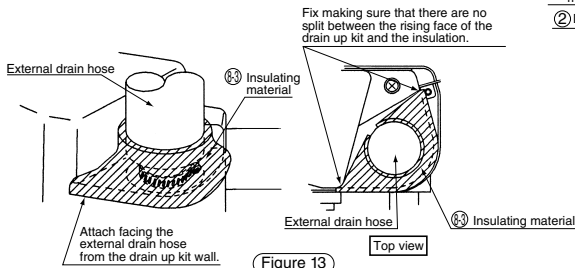

Figure 13
- (3) Put the attached insulating material ② to the external drain hose connector, as shown in (Figure 13).